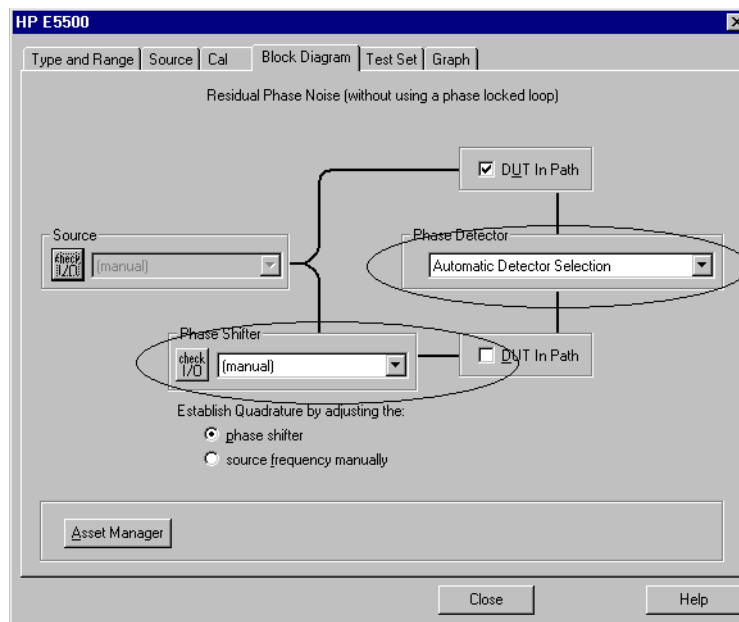

Figure 9-6 Select Parameters in the Block Diagram Tab
- 11 Choose the Block Diagram tab from the Define Measurement window. Refer to Figure 9-6.